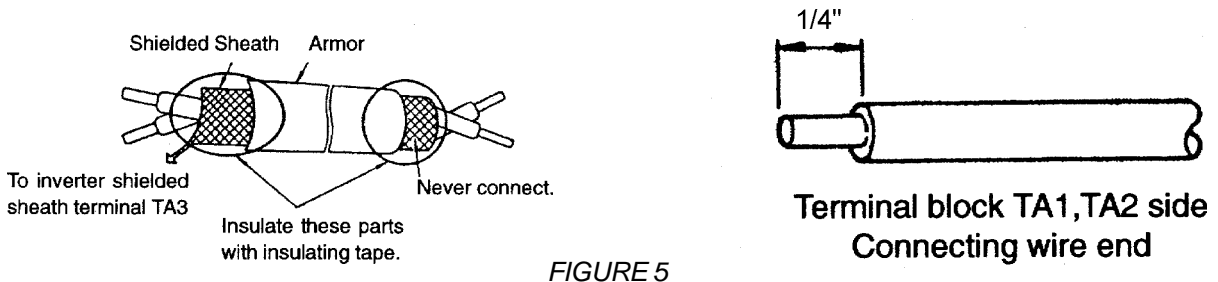

FIGURE 5
- (1) All signal wiring (from terminals TA1 and TA2) of the PG-X2 card should be run separately from any power wiring or cable.
- (2) Use shielded twisted cable between the PG-X2 card and the encoder, and ground the shield properly as shown in FIGURE 5. Good shield grounding practices will help minimize any noise problems. Also, the cable length should not exceed 160 ft. (50 m).